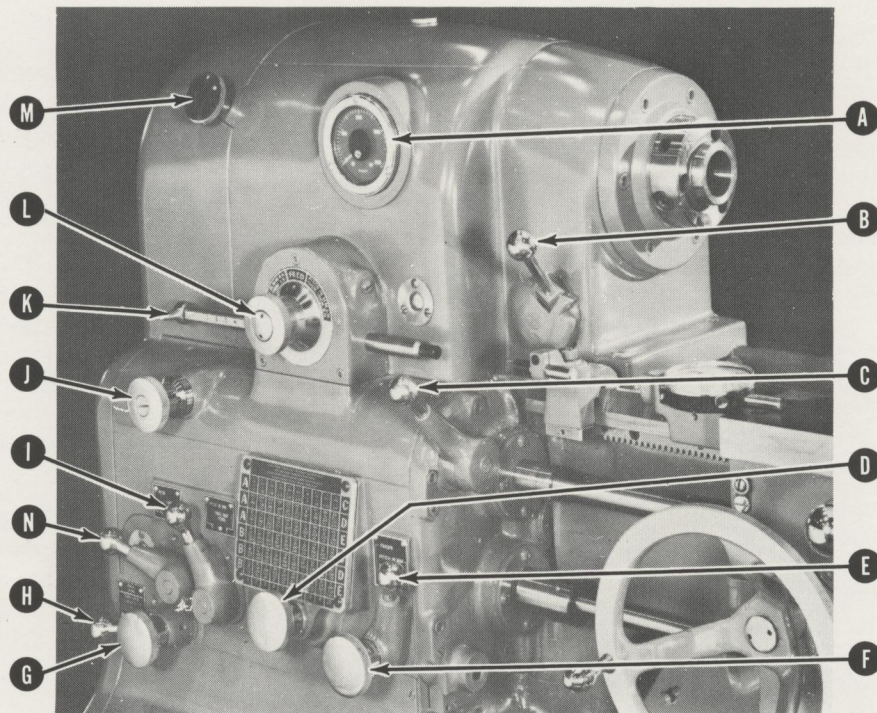
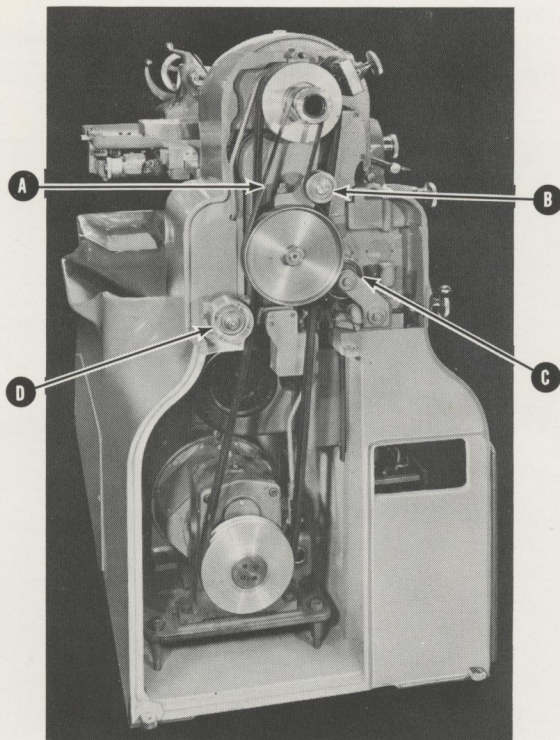
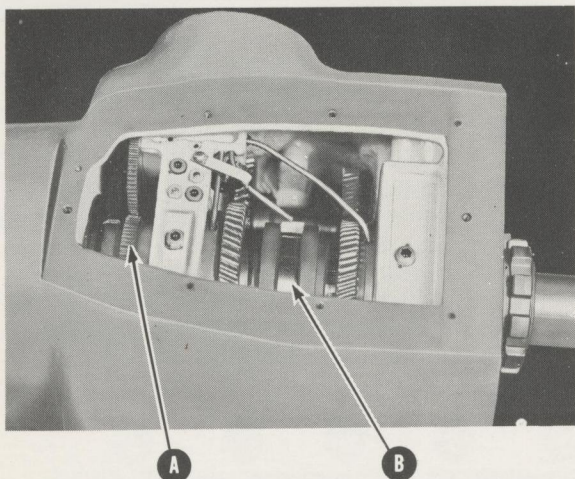

FIGURE 3. Headstock and Gear Box
FIGURE 4. Headstock End Covers Removed
FIGURE 5. Headstock, Top Cover Removed
The direct current main drive motor is mounted in the headstock end of the cabinet base. An integral part of the D. C. motor is a back gear unit. Lever (H) Figure 3 engages this unit. In the open belt position the motor sheave is driven directly by the motor armature. In the back gear position the armature drives the motor sheave thru a five to one reduction gear.
When the 10" EE is used for turning, facing or boring the only gearing rotation in the headstock is the tachometer drive (A) Figure 5. Power is supplied to the gear box for feed during these operations by the feed belt (A) shown in Figure 4. For threading operations knob (L) Figure 3 shifts jaw clutch (B) Figure 5 right or left, engaging the reverse gears which, in turn, drive the gearbox thru the end gear train for right or left hand threading. By using the reverse gearing in the headstock and the end gear train only for threading operations which are performed at relatively low spindle speeds, the accuracy of the gearing is preserved.
The tachometer (A) Figure 3 reads direct in spindle revolutions per minute.
Knob (M) Figure 3 is a spindle lock used to hold the headstock spindle stationary when tightening or loosening collets or step chucks. To lock the spindle, push knob in and rotate half a turn. To release rotate another half turn.
Micrometer stop bar (K) Figure 3, is notched for positioning in half inch increments. To adjust bar rotate handle on left end to up position, slide to new location and rotate handle to forward position. The detent will drop into the notch with a definite snap when properly positioned. Lever (B) Figure 3 is the spindle Start-Stop-Reverse lever as furnished on the standard machine. Lathes with electric leadscrew reverse have this lever on the right side of the apron.
Variation of spindle speed over the entire range is obtained by rotation of knob (G) Figure 3.
1. Pull out and lower tumbler lever (C) Figure 3.
2. Rotate knob (D) to the number corresponding to the index plate column in which the required feed or thread appears.
4. Set A-B knob (J) and C-D-E knob (F) as shown on the index plate.
<p>1. Vee and flat belt tension.</p>	<p>Install spindle drive vee-belts and flat feed belt as shown in Figure 4, Pg. 4. Two idlers (C) and (D) tighten the spindle drive belt and a single idler (B) tightens the feed belt. Adjust the vee belt idlers so that a reasonable pressure with one finger on a single belt will move it approximately $\frac{1}{8}$" from idler (D). Adjust the flat belt idler so that a reasonable pressure with one finger at point (A) Figure 4 will deflect the belt approximately $\frac{1}{4}$".</p> <p>NOTE: Be sure motor base and motor leg hold down screws are tight before attempting to adjust belt tension.</p>